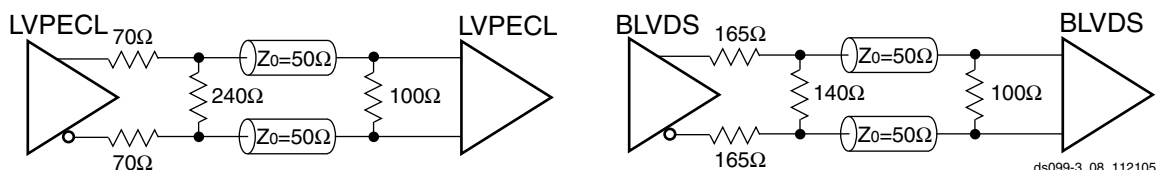

Figure 34: External Termination Required for LVPECL and BLVDS Output and Input
5. Each LVPECL_25 or BLVDS_25 output-pair requires three external resistors for proper output operation as shown in Figure 34. Each LVPECL_25 or BLVDS_25 input-pair uses a 100W termination resistor at the receiver.